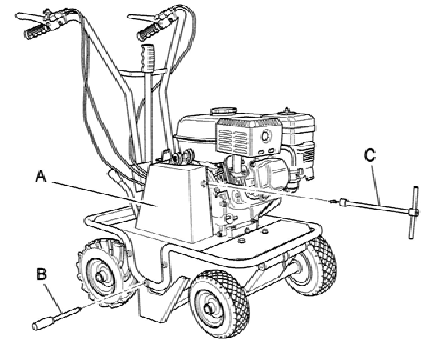

Fig. 6
-remove the metal guard (fig. 6 ref. A), by unscrewing and taking out the screws shown in figure 6 ref. B and C.